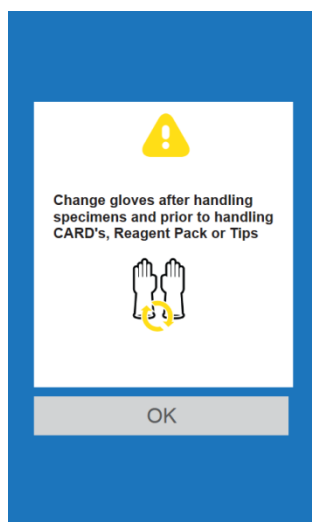

Figure 5-4: Change gloves screen
5.4.1.3. Follow instructions that appear on UI (Figure 5-4) reminding operator to change gloves after placing sample rack and before handling consumables.